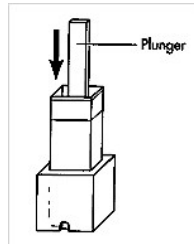

Fig. 4
4. Using the plunger provided, push the gel piece(s) close to the membrane (see Fig.4), so that, the gel piece is uniformly in contact with the membrane.
The entire band is not excised in a single attempt (Fig.12)	<ul style="list-style-type: none"> Turn the Gel-PICK™ around and use the other open end to pick up the remnants of the band. Alternatively: After punching out a band, position the Gel-PICK™ in the Gene-TRAP™ and push the gel piece against the membrane with the plunger (Fig.4, 14). Use a scalpel or any sharp instrument to trim the remaining DNA band from the gel. Cut the gel band into small pieces and load the pieces into the Gel-PICK™ (Fig.14). Perform electroelution as usual. The elution time will be longer.
The band is wider than the size of Gel-PICK™ (Fig.13, 15)	<ul style="list-style-type: none"> Punch out two or more gel pieces from the band, one on top another. When punching out more than one piece from a gel band, allow some distance between the pieces (as in Fig.15). Use the other cutting end of the Gel-PICK™ and punch out the remnants of the band. Depending on the thickness of the gel, you may be able to punch out 3-10 pieces of gel. Alternatively: Punch out two or more gel pieces as above. Position the Gel-PICK™ in the Gene-TRAP™ and use the plunger to push the gel pieces against the membrane as described in Step III (Fig.4, 14). Use a scalpel or any sharp instrument to trim the remaining DNA from the gel and load the pieces into the Gel-PICK™ (Fig.14). Perform electroelution as usual. The elution time will be longer.
The DNA band is crowded by other bands (Fig. 16), which may lead to cross contamination	<ul style="list-style-type: none"> Use the Gel-PICK™ to punch out a blank piece of gel. Position the Gel-PICK™ in the Gene-TRAP™ and push the blank gel piece against the membrane with the plunger (Fig.4, 14). Use a scalpel or any sharp instrument to cut out the band you intend to extract. Cut the gel band into small pieces and load the pieces into the Gel-PICK™ (Fig.14). Electroelute as usual. Elution time will be longer.
Gel is too thin, leading to difficulty in picking gel bands with Gel-PICK™	<ul style="list-style-type: none"> First, pick a blank piece of agarose gel into the Gel-PICK™ from a prepared 4-5mm thick agarose gel in appropriate buffer. Position the Gel-PICK™ in the Gene-TRAP™ and push the blank gel pieces against the membrane with the plunger, as in Step III (Fig.4, 14). Cut the band with a sharp instrument and load into the Gel-PICK™ (Fig.14).